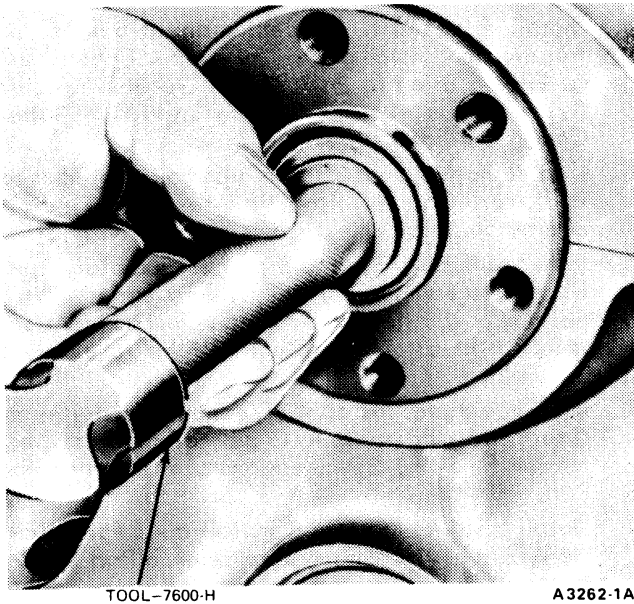

FIG. 35 Installing Clutch Pilot Bearing
1. Using Tool-7600-H or equivalent, install the pilot bearing with the seal facing the transmission (Fig. 35) so that the adaptor is not cocked.